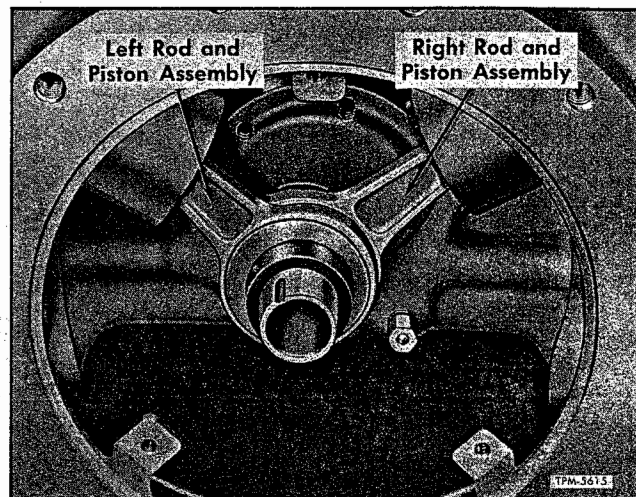

Figure 23—Right and Left Connecting Rods Installed
3. **NOTE:** Connecting rod and piston assemblies are installed in the reverse order of their removal. As viewed from rear of compressor, install right assembly, left assembly, then the center assembly last (fig. 23).